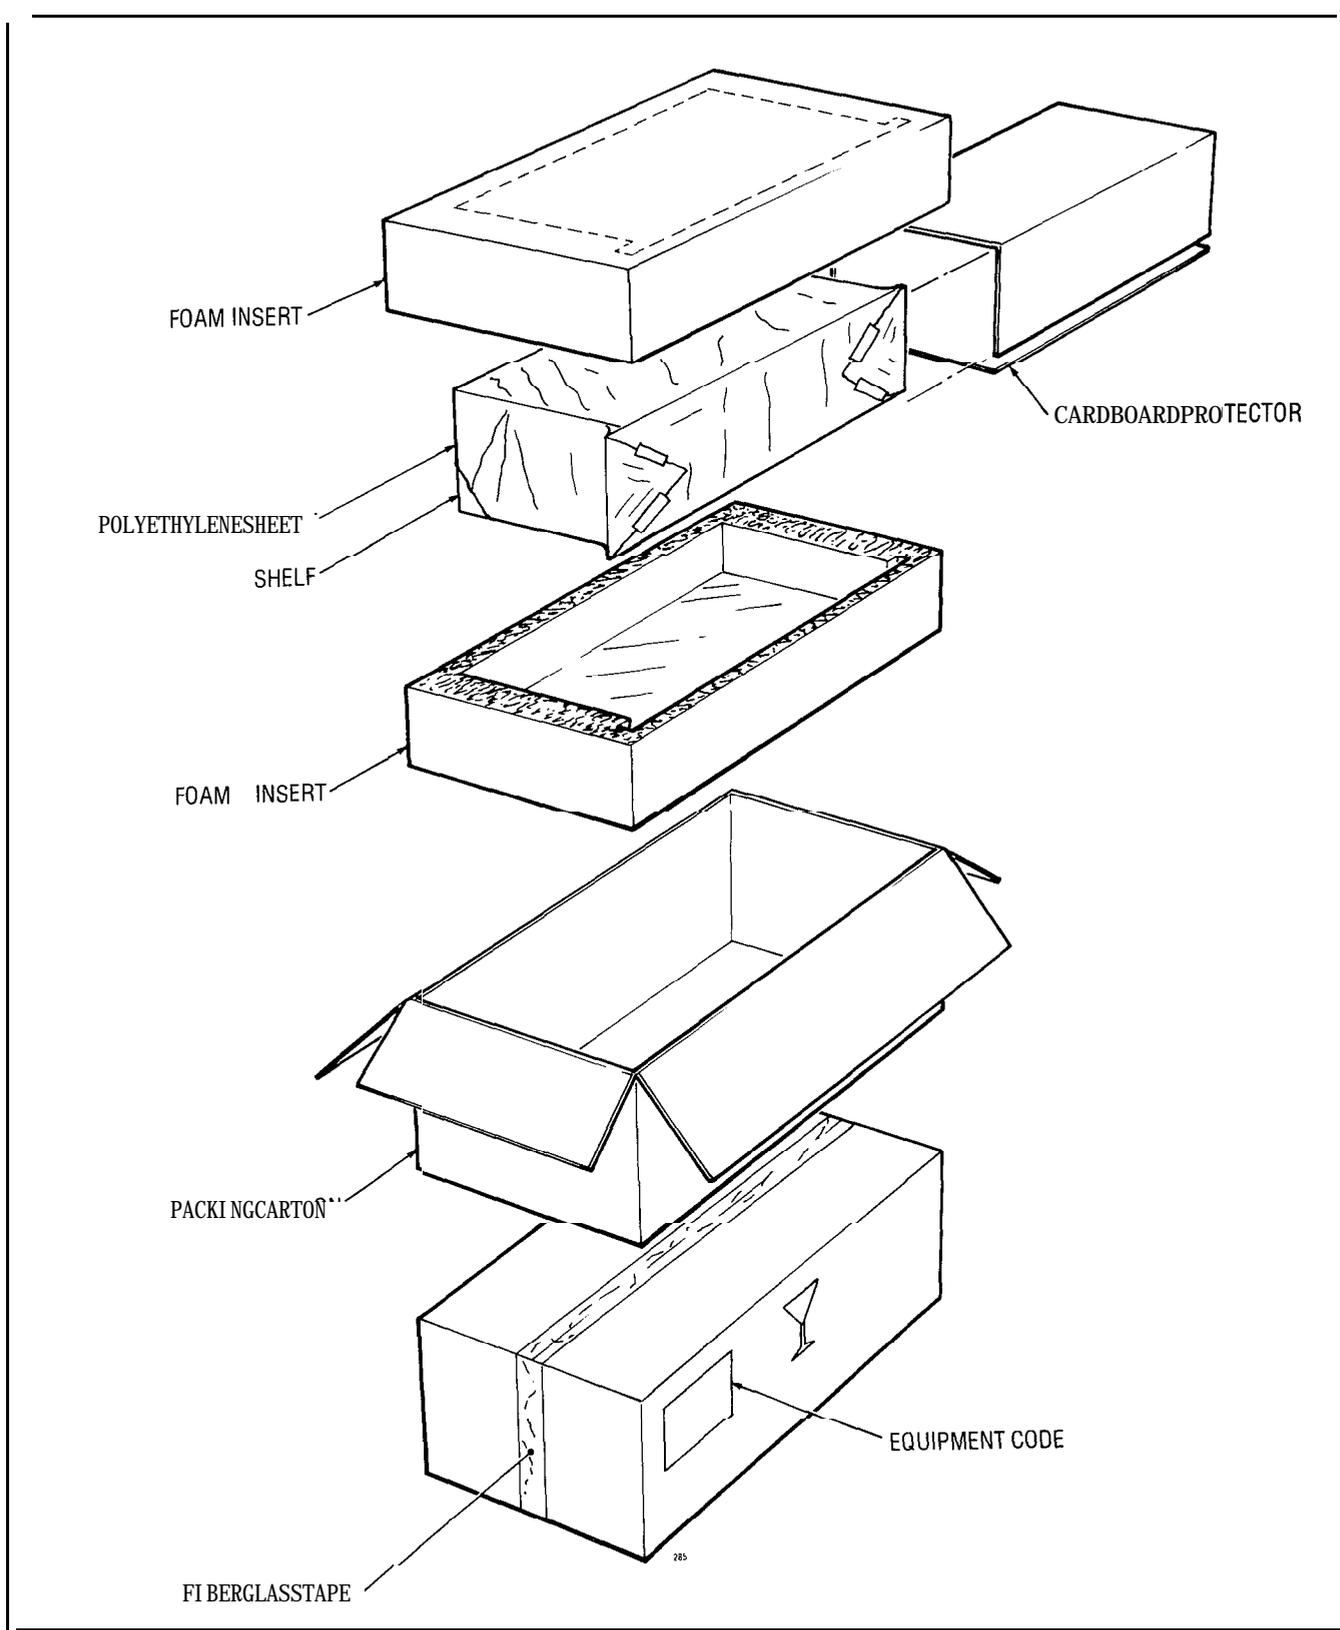

Fig. 4-4 Equipment Shelf Packaging
4.03 Equipment shelves, when shipped separately, are packaged in a similar manner. A shelf, with all cards removed, is enclosed in a cardboard protector to prevent damage to the shelf backplane. The protected shelf is then wrapped in a polyethylene sheet and placed in a formed foam insert. The complete assembly is finally encased in a packing carton and secured by fibreglass tape (Fig. 4-4).